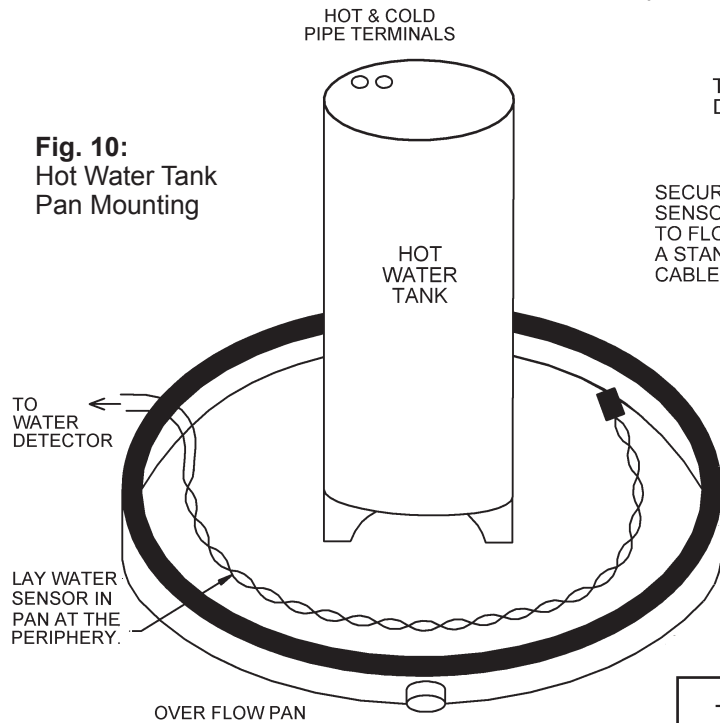

Fig. 10:
- Alternatively the rope water sensor can be laid on the floor or under pipes as shown in Figs. 10, 11, 12 & 13. Cable clamps can be used to secure the sensor to the floor.